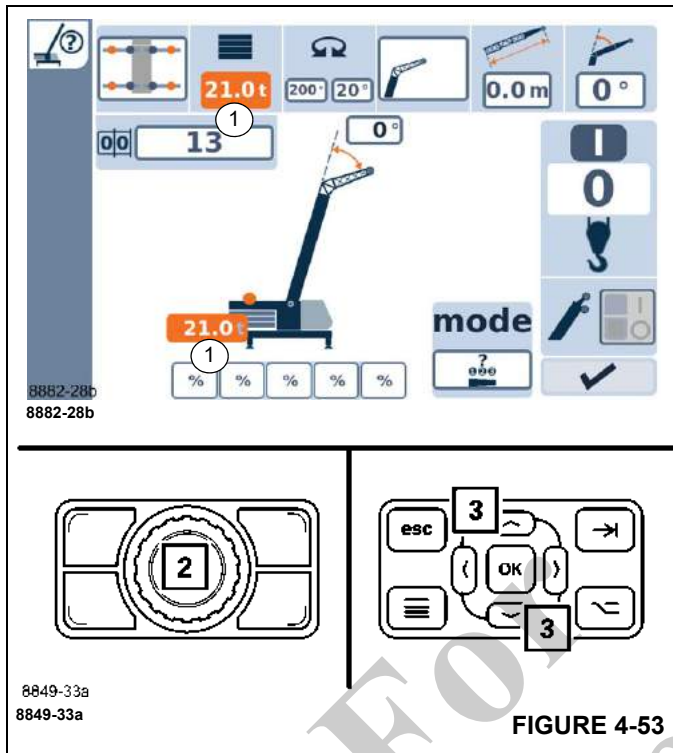

FIGURE 4-53
- Select and confirm the symbol (1), (Figure 4-53).